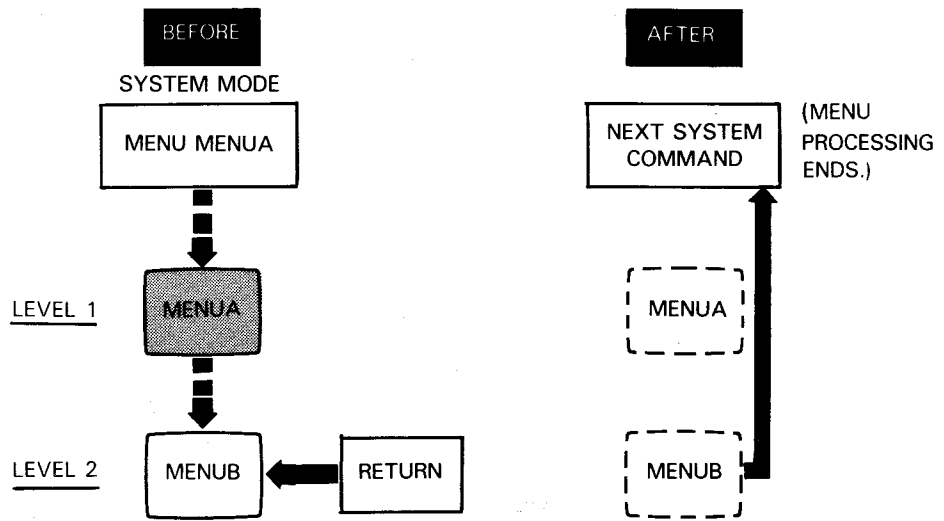

Figure 2-8. Example 2 of the RETURN Command
- It leaves the menu chain altogether without finding any marked menus, as in Figure 2-8. In this case, menu processing ends, and control returns to the software component calling menu services in the first place, whether a user program or interactive services.
In Figure 2-8, MENUB is about to execute a RETURN command. Earlier, the workstation operator called menu MENUA, which in turn called MENUB. Neither MENUA nor MENUB has had a MARK command executed. Now, the RETURN command causes the menu processor to search back through the menu chain for a menu marked by the MARK command. MENUA doesn't satisfy this requirement so the menu processor goes all the way back to interactive services. As a result, menu processing ends, the workstation goes blank, and the operator is free to enter another system command.